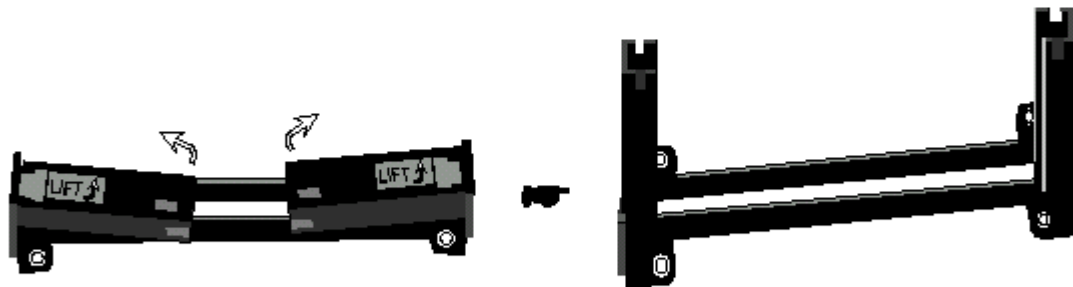

Figure 10
- ❶ First, please refer to figure 10 below, and follow the direction to lift up the fixed foldable pentium® II Retention Mechanism. This pre-installed device is designed for you to install Pentium® II CPU more easier and to avoid any damage on the board due to overtightening the four screws.
- ❷ One thing must be kept in your mind that please make sure to lift upright the foldable parts of the Retention module to fit and install CPU properly.